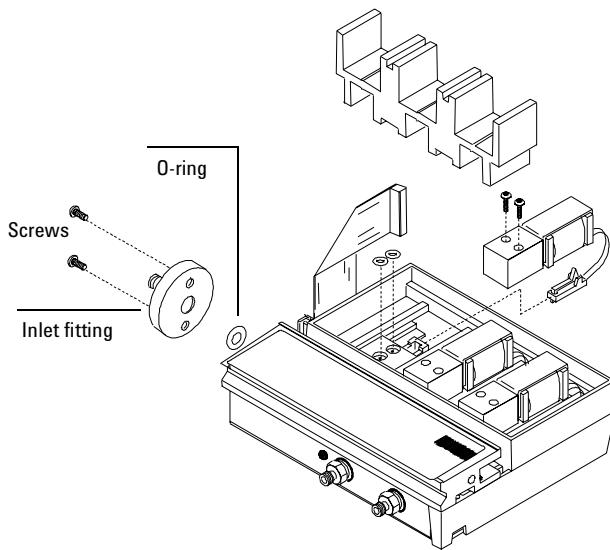

Figure 250-19 EPC module serviceable parts
8. If the leaky component is serviceable, such as a vent/inlet fitting (see diagram of serviceable parts, Figure 250-19), replace it. Otherwise, replace the EPC module.